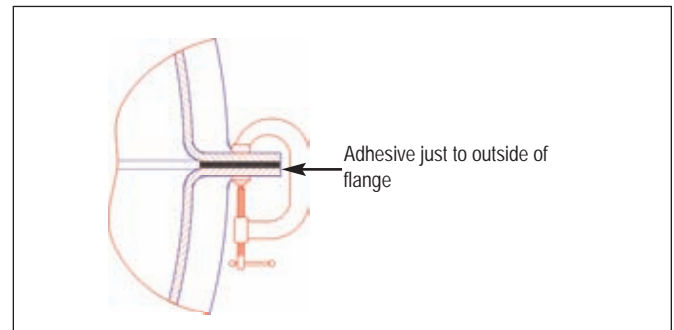

FIGURE 7-8
7.3.6. Gently tighten the clamps until the adhesive flows to just the outside of the flange. DO NOT OVER TIGHTEN. (See FIGURE 7-8.)